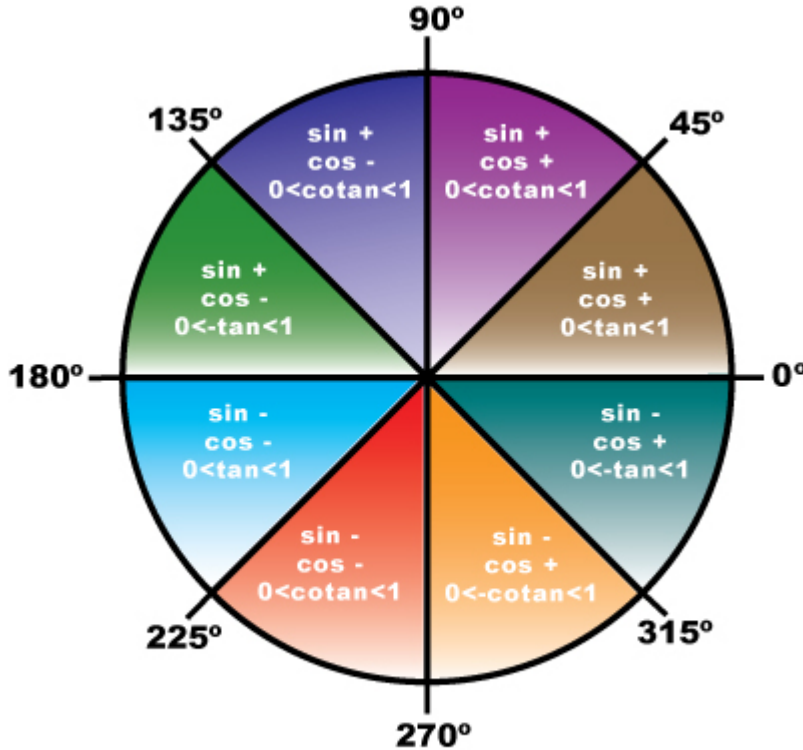

Figure 2 – Illustration of the relationship of the resolver outputs and ratio transformer settings at various angles.
1) The output with the greater magnitude at a particular angle is connected to the input of the ratio transformer. That is because the setting of the ratio transformer (tangent of the shaft angle) must be  $\leq 1$ . The cosine is greater than the sine at 0° to 45°, so the tangent is  $\leq 1$ . At 45° to 90° the sine is greater so it is used as the input to the ratio transformer. The ratio transformer is set to the inverse of the tangent, or cotangent, because it is  $\leq 1$ . Refer to Figure 2.
2) The two outputs connected to the common of ratio transformer should have the same sign. At 0-90° both sine and cosine are positive, so S3 and S2 are connected to common. At 90-180° sine is positive and cosine is negative so S3 and S4 are connected to common. Refer to Figure 2.